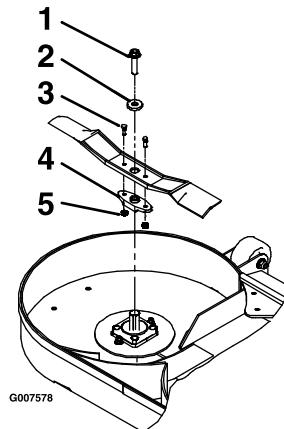

Figure 66
- Remove the blade, washer, and blade bolt that secures the blade and blade driver (Figure 66).
- Remove the blade driver from the existing blade (Figure 66).
1. Install the blade driver to the new blades with the shear bolts and locknuts (Figure 66).
3. Install the blade, washer, and blade bolt to the spindle shaft (Figure 66).